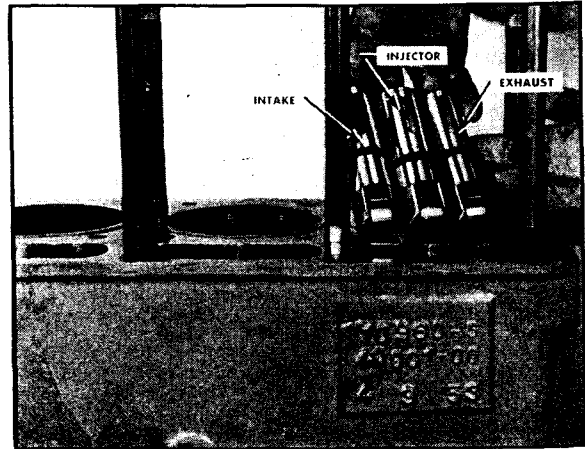

Fig. 12-40. Installing tappets
1. Assemble the roller tappets over the camshaft in the cylinder block bores. The injector tappets are largest and are placed in the center. Fig. 12-40. Intake and exhaust valve tappets are alike.